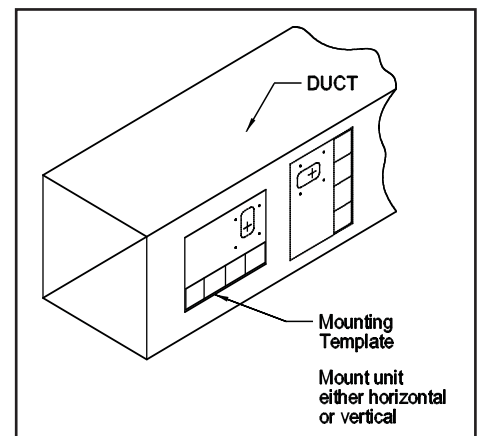

Figure 2
2. Apply supplied mounting template to air duct in either a vertical or horizontal position as shown in Figure 2. (Leave template mounted to duct for future reference.)